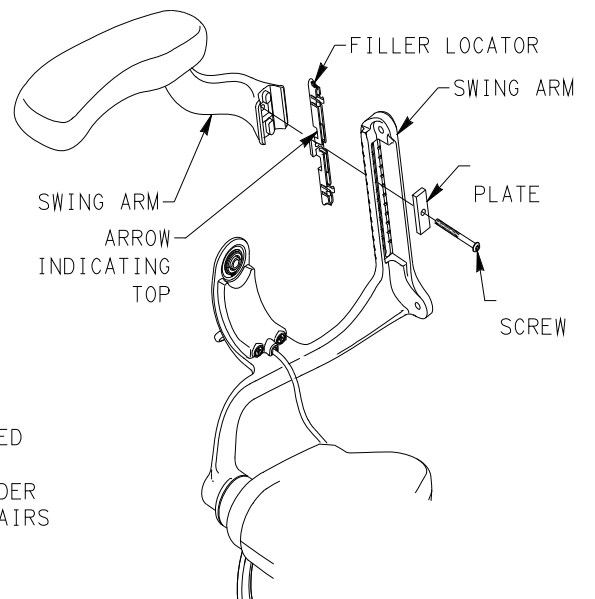

FIGURE 7
-FIXED ARMS: WHILE SUPPORTING ARM YOKE USE RATCHET WRENCH AND T-27 TORX BIT TO REMOVE ARM YOKE. SET ASIDE ARM YOKE, TORX HEAD SCREW AND RETAINER PLATE. USING STRAIGHT HEAD SCREWDRIVER PUSH OUT FILLER LOCATOR AND SET ASIDE. SEE FIGURE 7.
-FIXED ARM: NOTE ARROW INDICATING TOP OF LOCATOR FILLER PRIOR TO INSTALLATION TO SWING ARM. INSERT LOCATOR FILLER INTO SWING ARM AND SNAP INTO PLACE. POSITION ARM YOKE ON SWING ARM ENGAGING ARM YOKE WITH LOCATOR FILLER. INSTALL TORX HEAD SCREW AND RETAINING PLATE INTO ARM YOKE. TIGHTEN AND TORQUE SCREW TO 100-125 IN-LBS. SEE FIGURE 7.